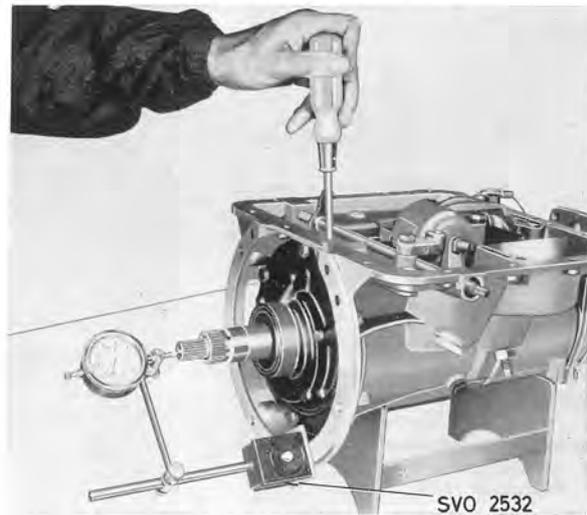

Fig. 4-87. Checking end float
21. Set up the dial indicator gauge as shown in Fig. 4-87 with plate 2532 and magnetic attachment. Place the point of the gauge against the shaft end, move the shafts and gears backwards and forwards and read off the end float. This should be 0.25—0.75 mm (0.010—0.030"). Note the amount of play.